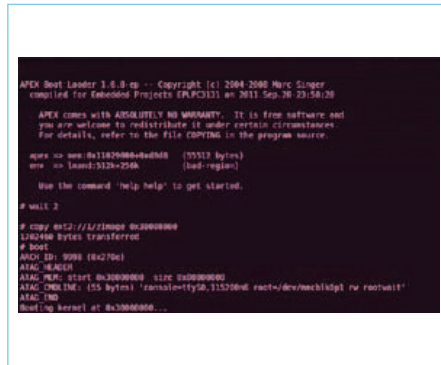

Figure 7. The APEX bootloader.
- The firmware (the APEX bootloader) initializes the external SDRAM and copies the kernel from the SD card into the SDRAM (see **Figure 7**).